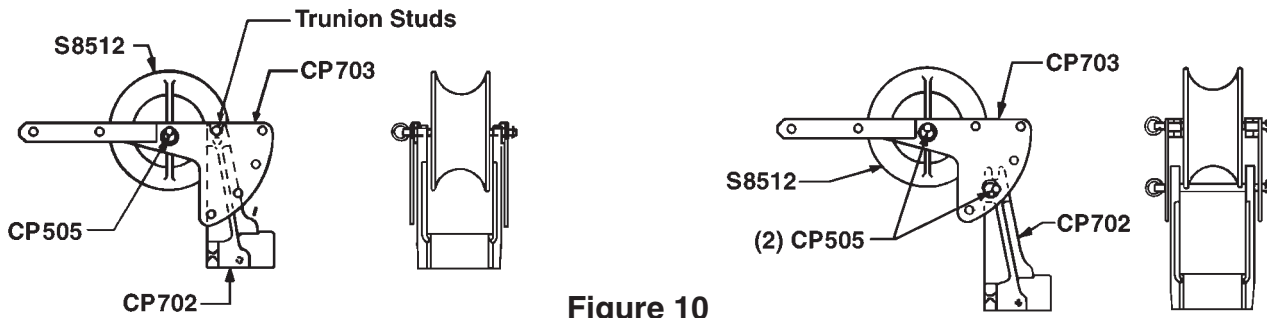

Figure 10
- The slots in the coupling frame are designed to engage the trunion studs on CP703 frame adaptor. To use other angles or gain height, a CP505 8-inch lock pin may be installed through holes in the frame adaptor. The coupling frame slots can rest under the pin instead of the trunion studs. See figure 10.
- 1) Coupling clamp frame CP702 is used to provide a connection between the conduit and the puller frame. See figure 10.